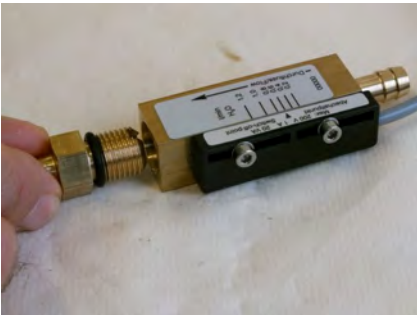

Fig. 28: Insert process connection (outlet)
6.  Insert the process connection (outlet) into the device body (outlet) (Fig. 28)